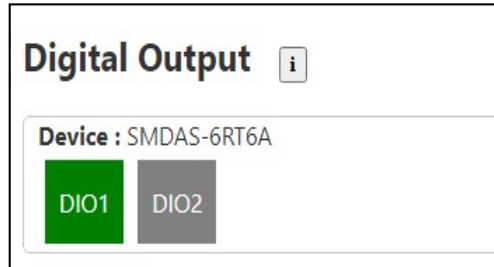

Figure 36: Status of Digital Pins for Device SMDAS-6RT6A
Digital Output: The Digital output section represents the status of digital pins along with their respective device name. Each pin is clearly labelled to indicate whether it is currently activated (ON) or deactivated (OFF). Active pins are highlighted in green, while inactive pins are shown in grey. For example, in Fig 36, for Device SMDAS-6RT6A, DIO1 is displayed as ON in green, whereas DIO2 is shown as OFF in grey.